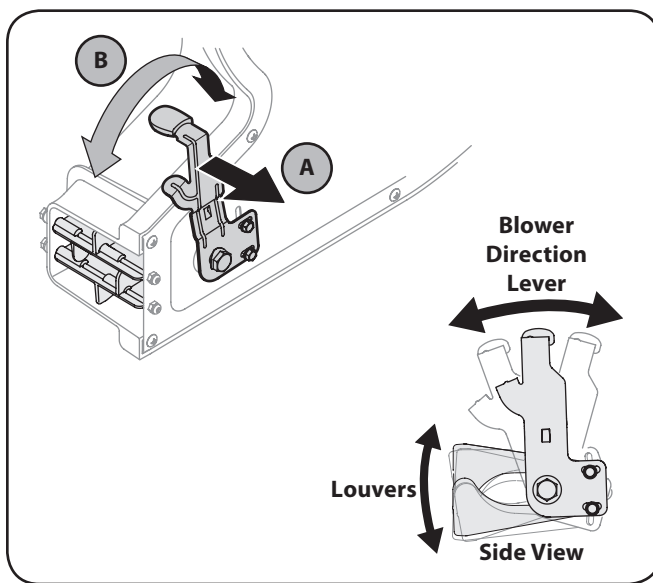

Figure 5-1
1. Pull the lever out and away from the blower. See Figure 5-1.